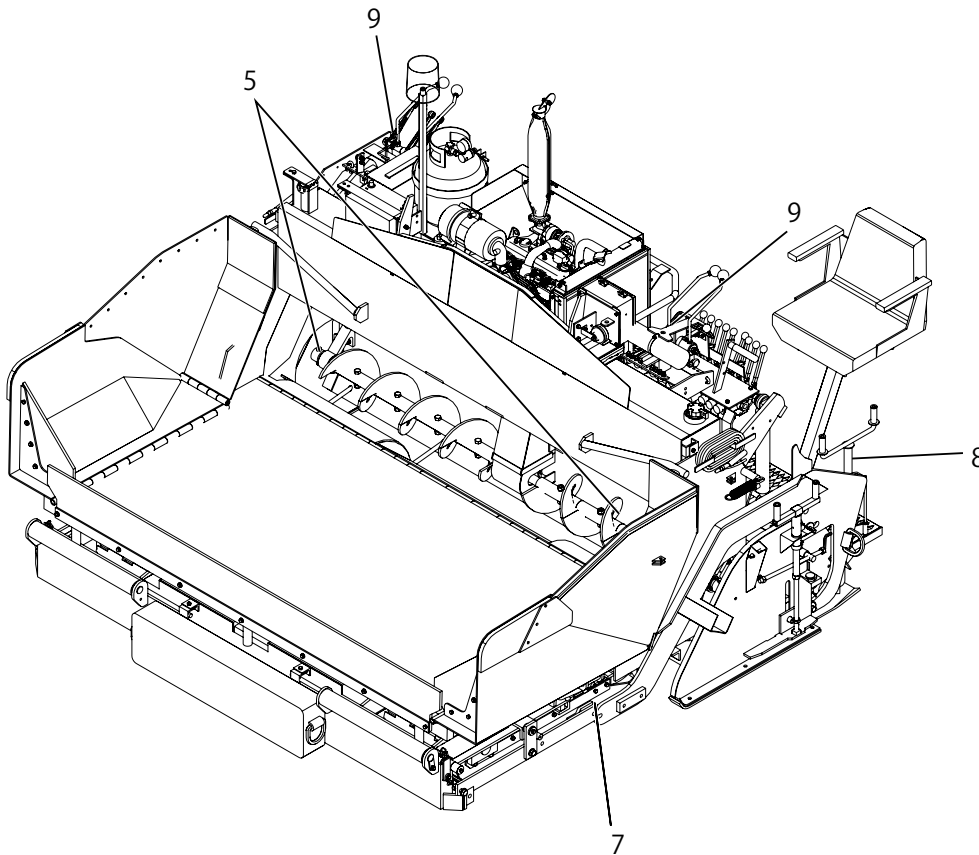

Figure 5-1. Lubrication Points
| Paver | Lubricate paver (Figure 5-1, Table 5-1. Lubrication Points Schedule) | X | X | | | | |
Proper lubrication is necessary to maintain the LeeBoy Model 1000F Tilt Hopper Paver at top efficiency. Refer to the lubrication information in **Table 5-1. Lubrication Points Schedule**. All lubrication points are shown in **Figure 5-1**.
6. For both sides of the screed, lubricate all grease fittings on the flight screw, the fitting on the depth screw, and the fittings on the flange bearings located on top of the extension screed (**Figure 5-1**). Grease nuts on extension screws.